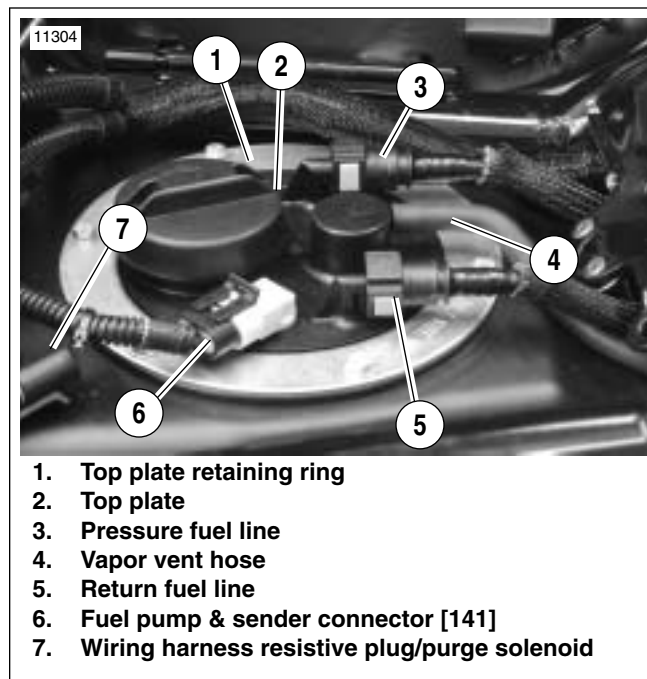

Figure 4-6. Fuel Tank Top Plate
- See Figure 4-6. Orient the pointer (6) on the lock ring to point 90 degrees to the left side of the motorcycle. In this position the start of the lock ring threads match the start of the threads on the collar of the opening in the fuel tank. Thread on lock ring. Use FUEL CAP REMOVER/INSTALLER (HD-45324) to tighten the lock ring to 54-61 Nm (40-45 ft-lbs).
- Mate the fuel pump and sender connector half (5) [141B] while supporting the top plate connector half [141A] with the opposite hand.
- a. See Figure 4-6. Disconnect the fuel pump and sender connector (6) [141] from the top plate (2).
7. See Figure 4-6. At the fuel rail, disconnect the pressure fuel line (3), return fuel line (5) by pressing blue buttons with thumb and first finger.
9. Use opposite thumbs to push the vapor vent hose (4) off of the outlet tube.
- See Figure 4-6. Remove six fasteners from top plate retaining ring (1) and remove retaining ring.
- See Figure 4-6. Install the return fuel line and the larger pressure fuel line while supporting the mating port. Press the lines on until the click is heard that indicates engagement.